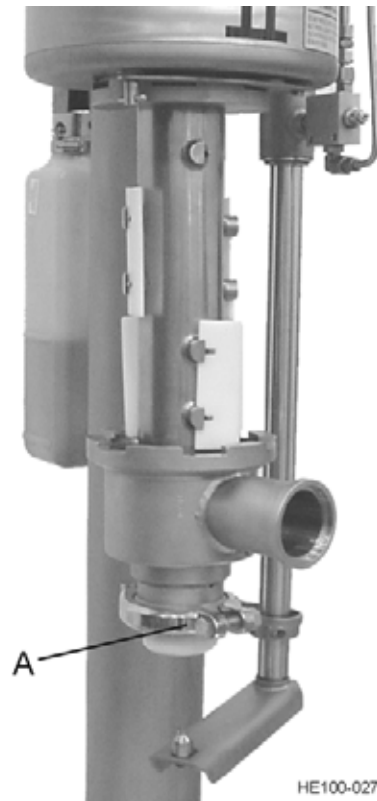

Figure 62 - Remove Head Clamp
8. Remove clamp on head. (See Figure 62, Item A) and shaft nut guard.